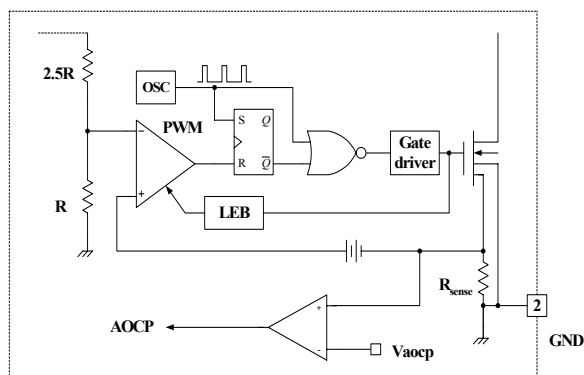

Figure 9. AOCP block
3.2 Abnormal Over Current Protection (AOCP) : When the secondary rectifier diodes or the transformer pins are shorted, a steep current with extremely high di/dt can flow through the SenseFET during the LEB time. Even though the FS7M-series has OLP (Over Load Protection), it is not enough to protect the FPS in that abnormal case, since severe current stress will be imposed on the SenseFET until OLP triggers. The FS7M-series has an internal AOCP (Abnormal Over Current Protection) circuit as shown in Figure 9. When the gate turn-on signal is applied to the power Sense FET, the AOCP block is enabled and monitors the current through the sensing resistor. The voltage across the resistor is then